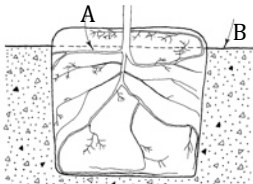
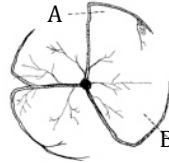

Figure 9. Remove soil and roots growing over the root collar (A) and place collar level with soil surface (B).
Figure 10. Cut roots at (A) to form new roots that grow away from the trunk. Do not cut roots at (B), since the root defects will regrow.
**Installing the tree:** Remove soil and roots from the top of the root ball to expose the root collar; cut away any roots that grow over the collar (Figure 9). Also cut any roots that circle or mat along the sides and bottom of the root ball (Figure 10). The root collar shall be even with the landscape soil after planting (see Figure 9). Backfill with soil removed from the hole. Minimize air pockets by packing gently and applying water. Build a berm 4 inches tall around the rootball to help force water through the root ball. Enlarge the berm as the tree establishes.